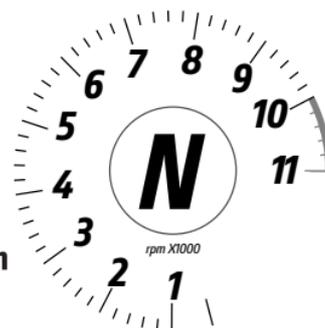

Fig 84
Once the DPL level is set, the instrument panel shows the wait screen for 2 seconds (Fig 83): during this time, if you press the ENTER button (3), the wait phase is interrupted and the instrument panel displays the main screen and sets the DPL to OFF. Then the instrument panel shows the "assisted launch" screen (Fig 84).